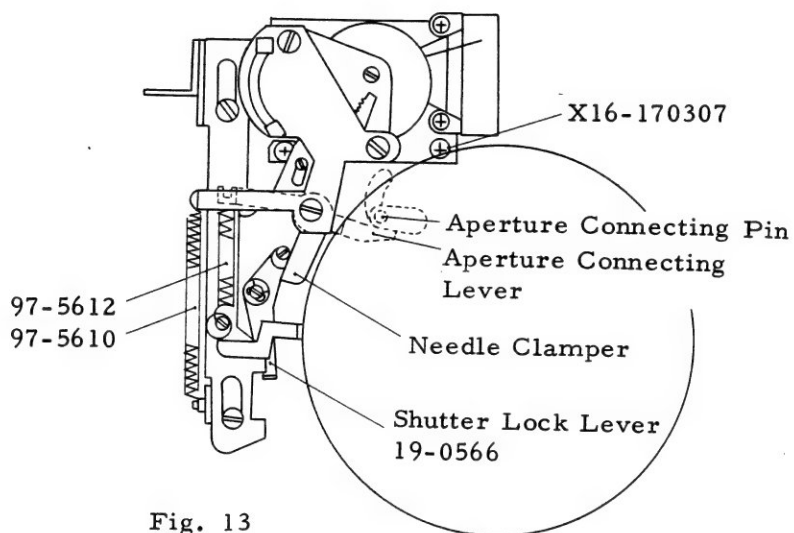

Fig. 13
3. Mounting	3.1 Mounting Exposure Meter Unit The needle clammer should be positioned at the right of Shutter Lock Lever 19-0566, and the Aperture Connecting Lever under the Aperture Connecting Pin of the Shutter. (Fig. 13)